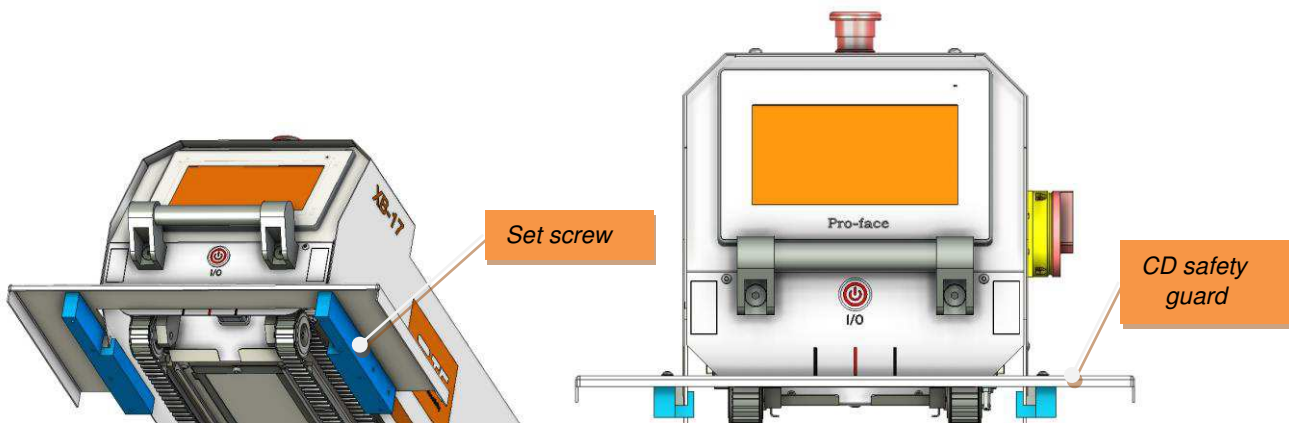

Fig.56 CD safety guard
- Refer to Fig.56, install the CD safety guard onto top chamber and fix it by 6X set screws.